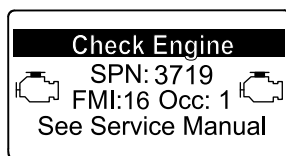

Figura 40
- Engine warning (Avertisment motor) SPN 3720, FMI 16 (Figura 40)